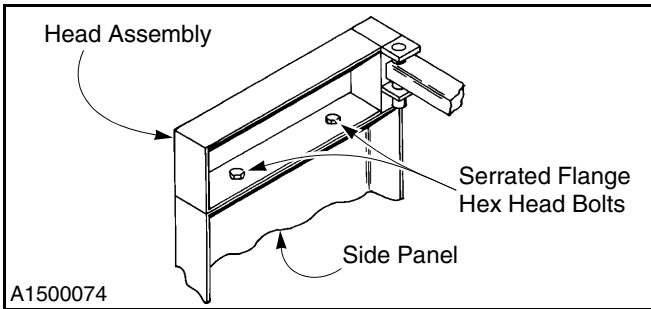
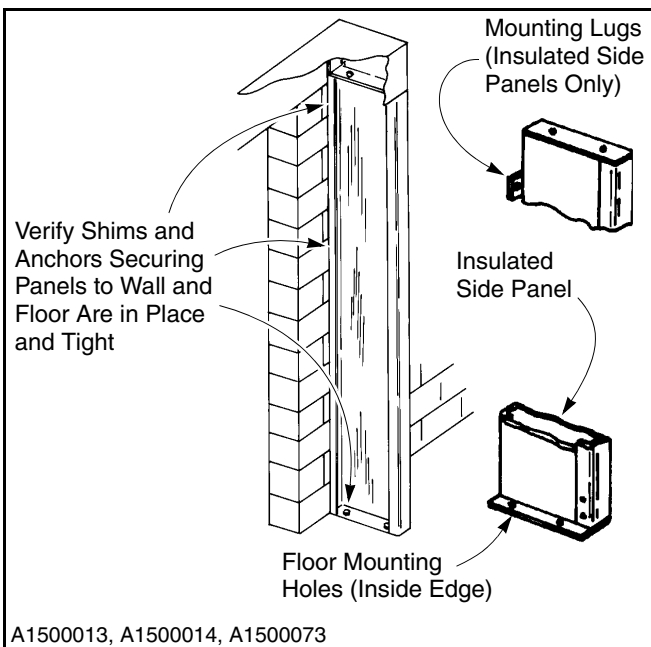

Figure 5
Figure 6
2. Check to make sure all nuts, bolts, and screws are tight throughout the door. Example: through-wall mounting bolts, floor anchors, etc. (See Figure 5 and Figure 6.)